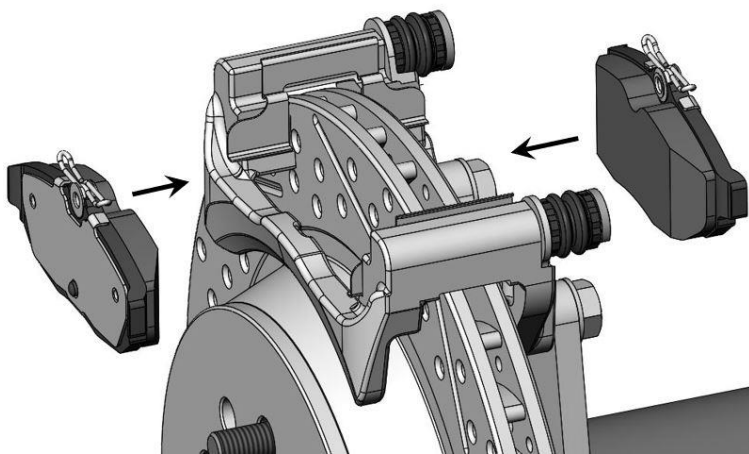
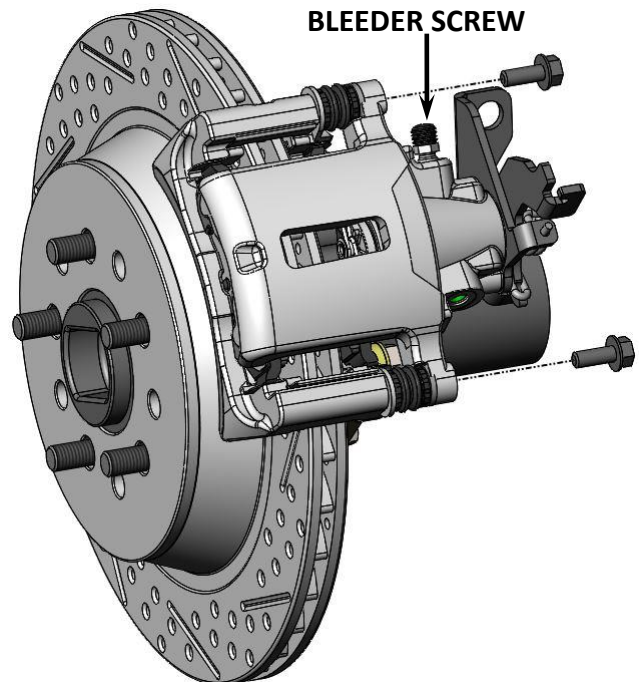

Figure 7a – Brake Pad Installation
Figure 7b - Caliper Installation and Bleeder Screw Orientation
11. With the Abutment Clips installed, position the pads into the Caliper Anchor Bracket. Refer to Figure 7a below for reference. Once the pads are installed slide the caliper body over the brake pads and Caliper Anchor Bracket. With the caliper in place, re-install the caliper mounting bolts between the caliper and the bracket. Torque the bolts to 30 lb/ft. **IMPORTANT:** Make sure that the bleeder screw is pointing upward. See Figure 7b below for reference on installing the caliper.